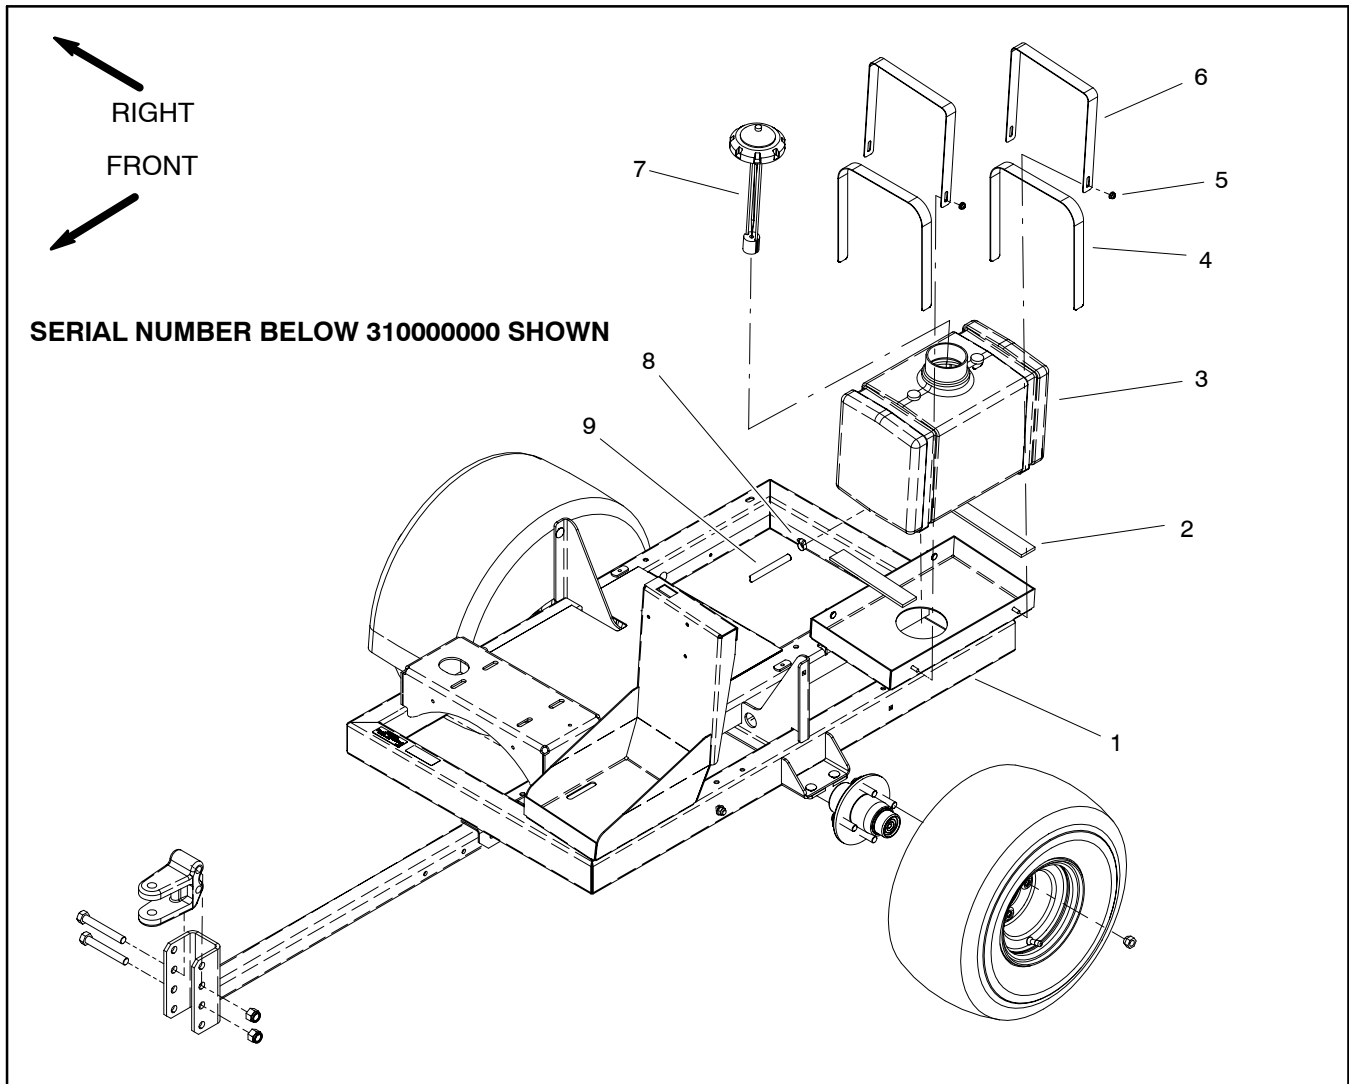

Figure 2
Fuel Tank Removal (Figs. 2 and 4)
5. Remove fuel tank from machine using Figure 2 or 4 as a guide. Make sure to clean up any spilled fuel.
Fuel Tank Installation (Figs. 2 and 4)
2. Install fuel tank to machine using Figure 2 or 4 as a guide.